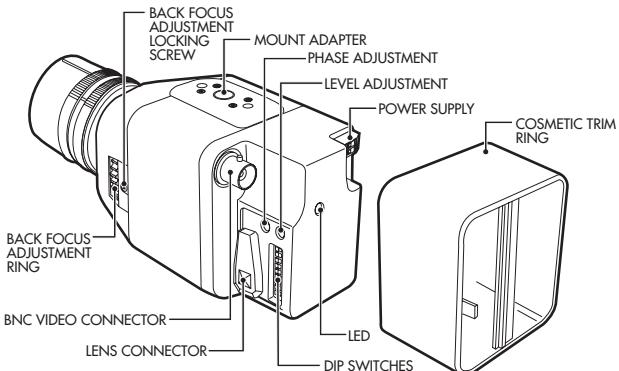

Figure 1. Camera Layout
2. Remove the cosmetic trim ring from the back of the camera (refer to Figure 1). Set the lens mode selector switch on the side of the camera to AI (auto iris video drive lens) or DD (auto iris DC drive lens). Refer to the Switch Settings section. Switch setting is determined by the type of lens used.
5. Connect the direct drive (DD) or auto iris (AI) lens to the 4-pin iris drive connector located on the side of the camera. Pin connections for the iris drive connector are as follows.
1. Remove the rear cover from the camera (refer to Figure 1). Thread cabling through the rear cover.
1. Remove the cosmetic trim ring from the camera (refer to Figure 1). Thread cabling through the rear cover.
When a direct drive lens is used, the lens mode selector switch must be set to DD. Switch the EI and AGC OFF. Use an appropriate screwdriver to turn the lens level potentiometer (refer to Figure 1) fully clockwise. Next, slowly adjust the potentiometer counterclockwise until the optimum picture is obtained (video output level of 1V peak-to-peak). Switch the AGC ON. To focus, fully open the iris by covering the lens with a suitable neutral density (ND*) filter. Select the scene to be viewed. If the viewed scene is 6.5 feet (2 m) away or farther, set the lens focus to infinity (far). Use the back focus adjustment ring (refer to the *Back Focus Adjustment* section) and focus on the selected scene. Remove the ND filter and set the lens focus as required.